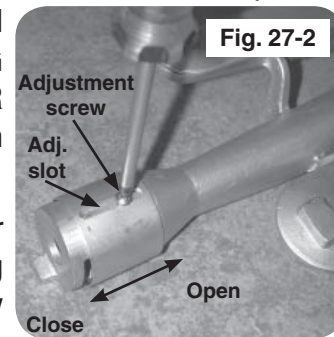

Fig. 27-2
2. Adjust the air shutter opening by loosening the adjustment screw with a screwdriver, then sliding the air shutter backward or forward to open or close the air shutter opening (see Fig. 27-2).